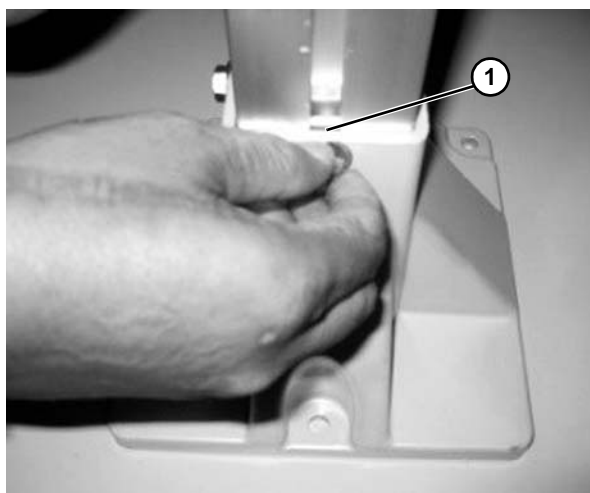

Figure 11
2. Slide the connecting strips (**Figure 11, item 1**) into the structural beam T-slots.